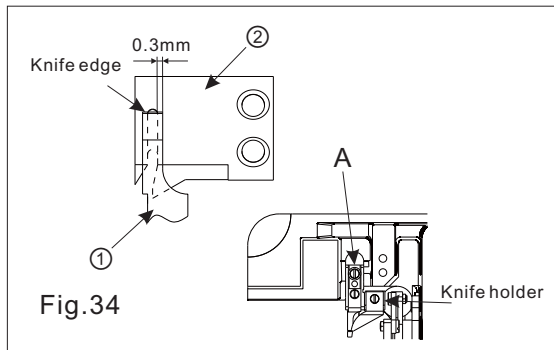

Fig.34
### 2. The relation between fixed knife and moving knife (Fig.34)
- 1) The clearance between fixed knife ① and moving knife ② should be 0.3mm
- 2) Adjust the position illustrated by the Fig.34.